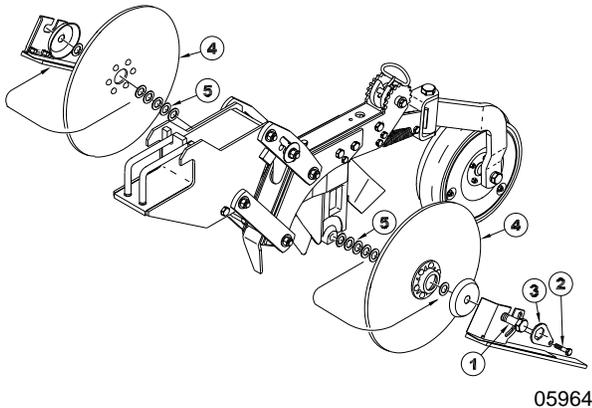

Figure 32
1. To add or remove opener shims, as shown in Figure 32, loosen the 3/4" bolt (#1) (the left side has left hand threads) that mounts the blade to the opener bar. If the Xpress Air Drill is equipped with soil control devices, remove the locking arm 3/8" bolt (#2) and the locking arm (#3) first.